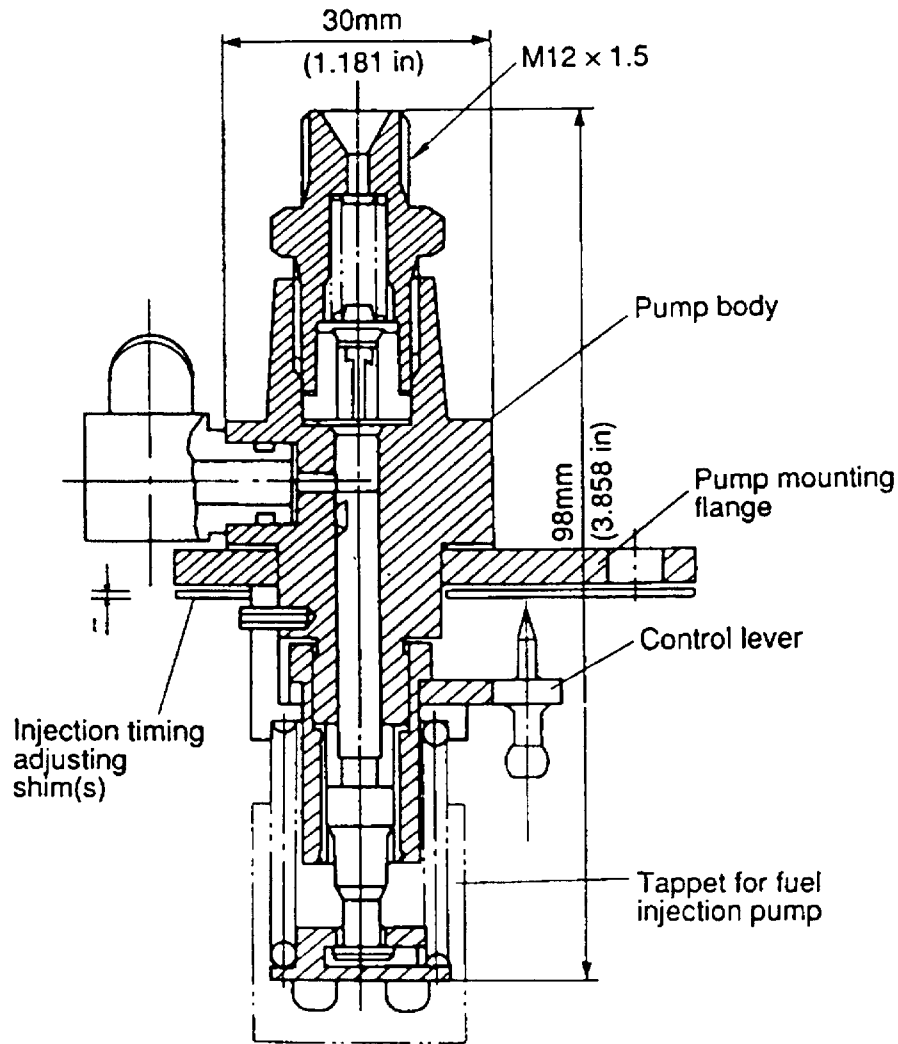
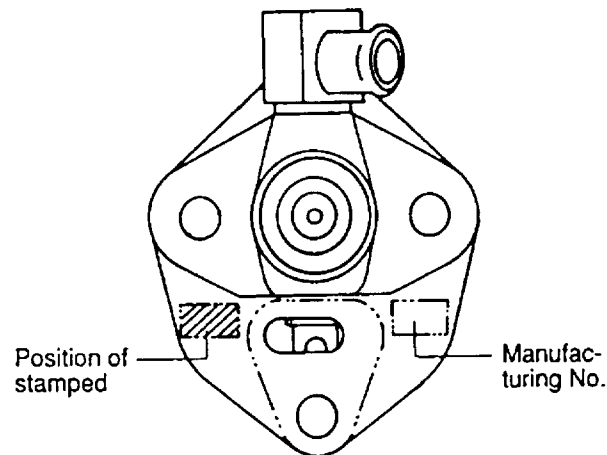

Figure 6-68 Configuration of fuel oil pump
Figure 6-69 Fuel pump mounting flange
- 1) Specifications: Model YPFE-M (see Figure 6-68 and Figure 6-69)